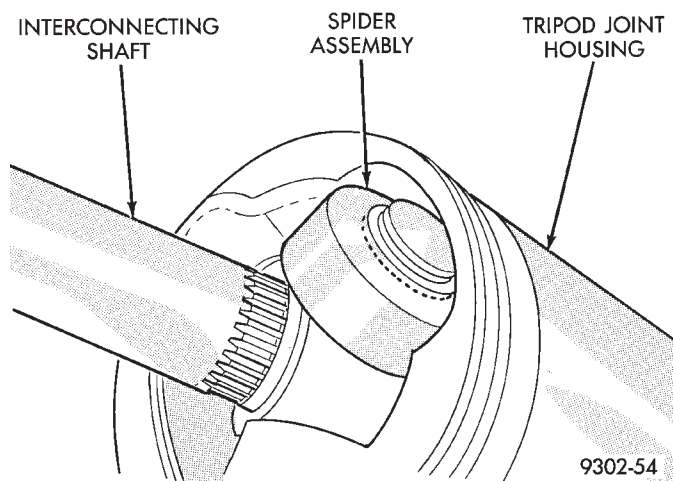

Fig. 6 Spider Assembly Installed In Housing
(4) Distribute 1/2 the amount of grease provided in the seal boot service package (**DO NOT USE ANY OTHER TYPE OF GREASE**) into tripod housing. Put the remaining amount into the sealing boot.
(5) Slide the spider assembly and the interconnecting shaft into the tripod joint housing (Fig. 6).